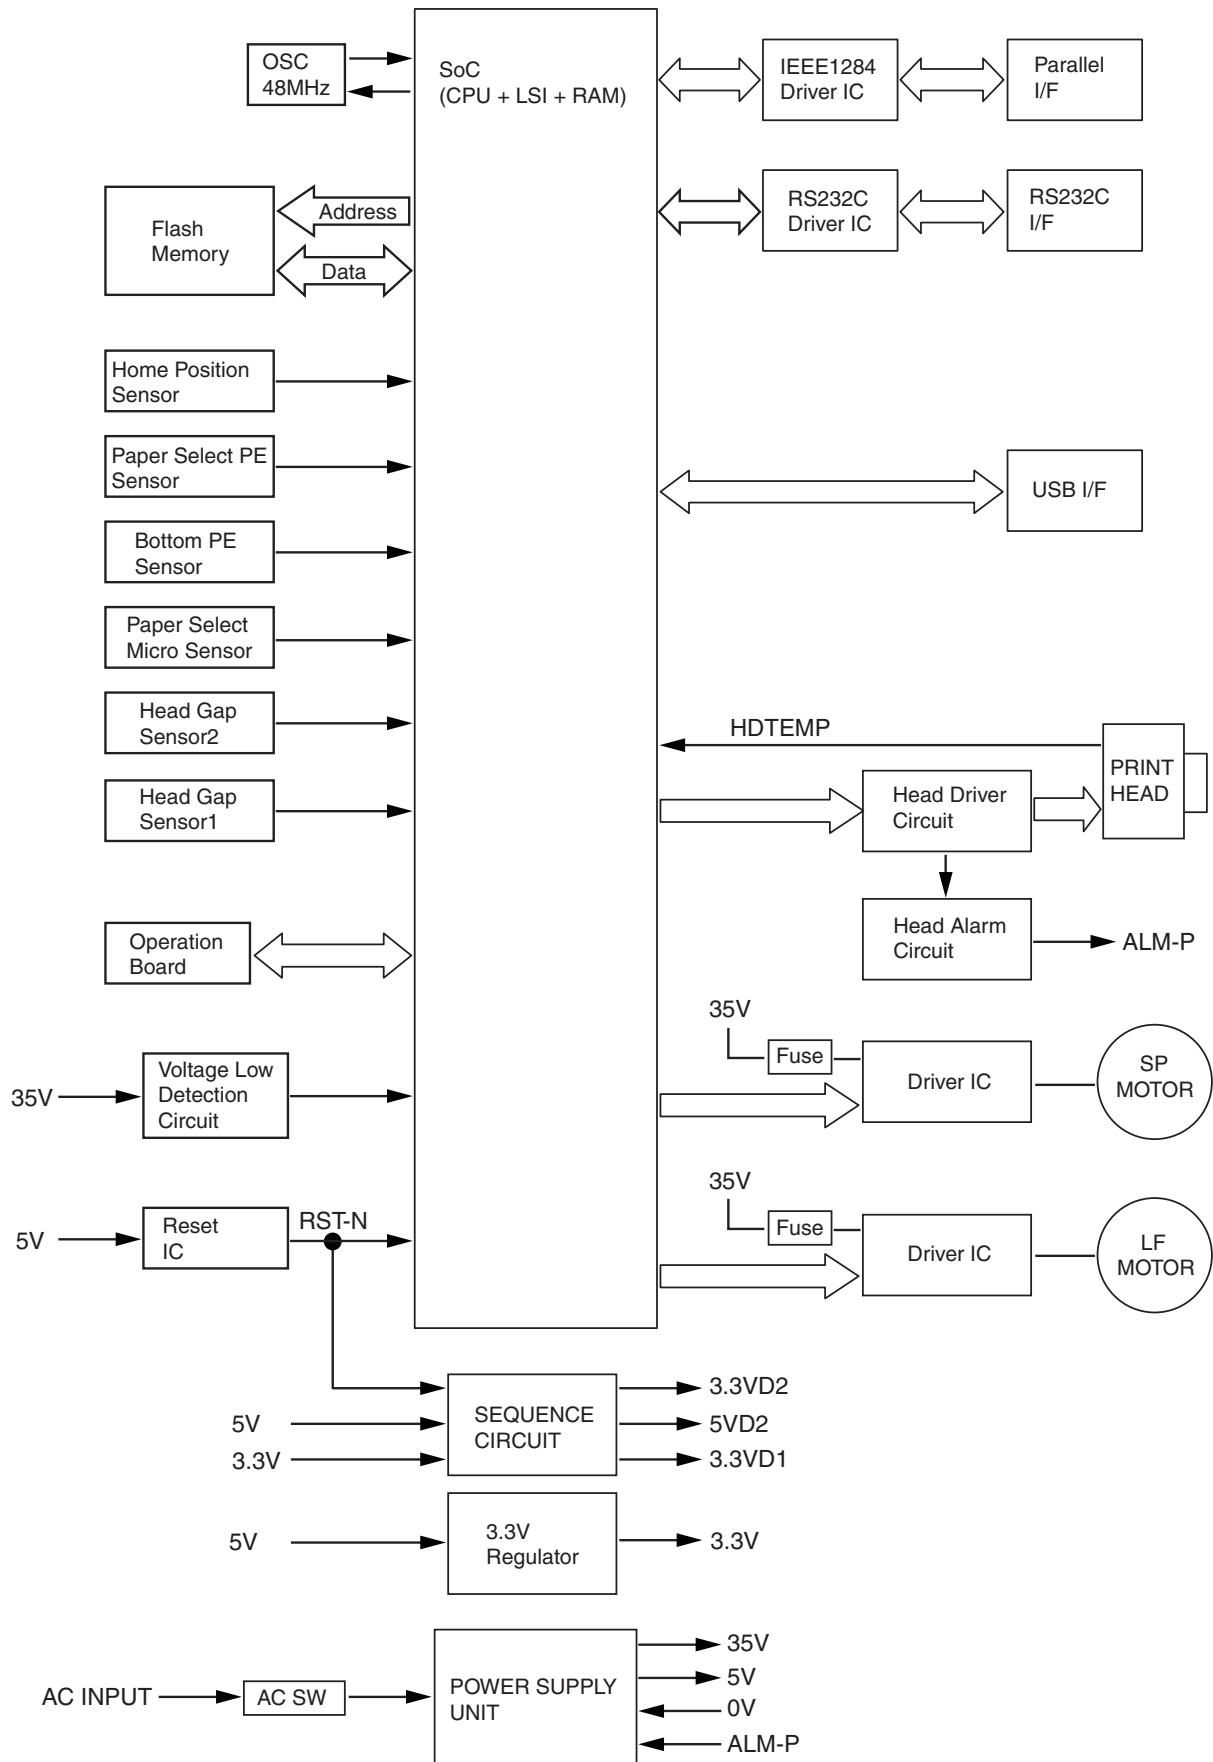

Figure 1
2.2 Circuit Operation (See Figure 1)